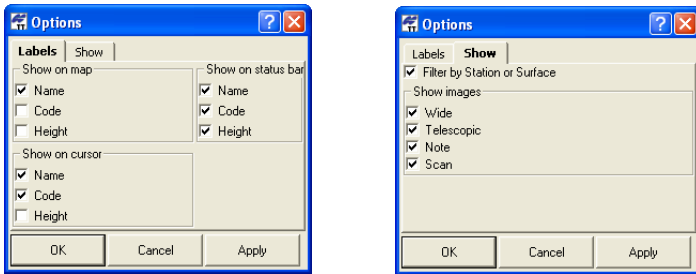

Figure 4-48. Image tab -> Labels and Show Options
2. On the *Labels* tab, enable the desired settings (Figure 4-48). Click *Apply* to save the settings and make further changes.
3. On the *Show* tab, enable the desired settings (Figure 4-48). Click *Apply* to save the settings and make further changes.